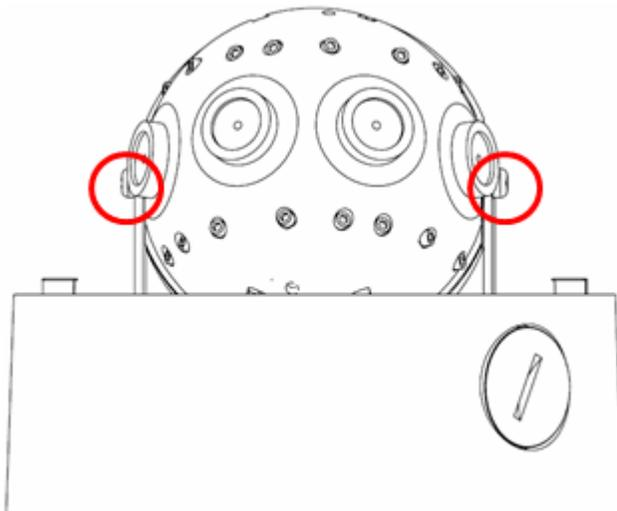

Figure 2
- Lock the camera head in place by fastening securely two Philips head screws on both sides of the Gimbal as shown in Figure 2. NOTE: Do not over torque the screws.